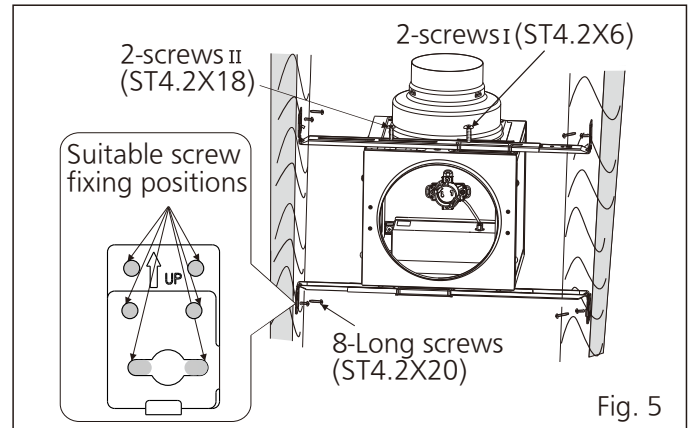

Fig. 5
5. Hang the luminaire body down from the four long screws, and adjust the suspension brackets if necessary. Then, tighten the four long screws up. And that, fix the other four long screws (ST4.2X20) to other holes. Make sure the luminaire body is level and square with the joists. (Fig. 5)
6. Tighten the two screws I (ST4.2X6) up (Except that the spacing is 12 inches between joists.). Then secure suspension bracket I and II to the luminaire body with screws II (ST4.2X18). (Fig. 5)